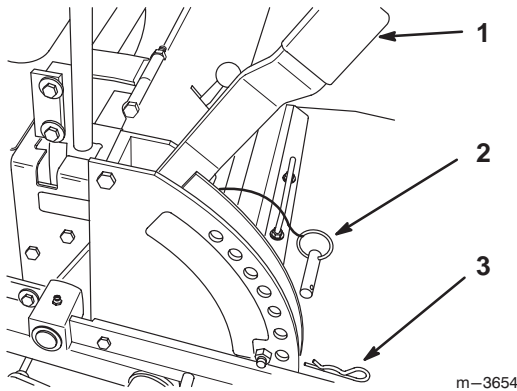

Figure 11
1. Raise the height-of-cut lever to the transport position (also the 4-1/2 in. (114 mm) cutting height position) (Fig. 11).
2. To adjust, remove the hairpin cotter and clevis pin from the height-of-cut bracket (Fig. 11).
3. Select the hole in the height-of-cut bracket corresponding to the height-of-cut desired, and insert the clevis pin (Fig. 11).
4. Secure the clevis pin with the hairpin cotter (Fig. 11).